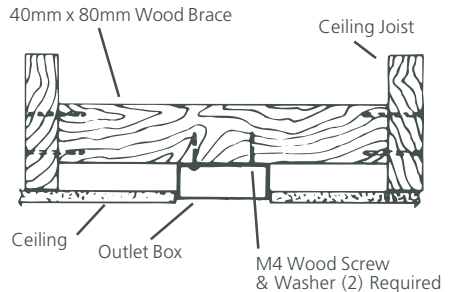

Figure 3
Secure a metallic outlet box 4" x 11/2" or 4" x 1/2" deep to 2 x 4 cross brace between two ceiling joists as shown in Figure 3. The outlet box must be recessed in the ceiling by 1/16" minimum. Secure the outlet box to the cross brace by drilling (2) pilot holes no larger than the minor diameter of the woodscrews (5/64") and use two #8 x 11/2" woodscrews and washers. Use the innermost holes for securing the box. Orient the box so the outermost holes are aligned with the 2 x 4 brace. The outermost holes will be used in Step 3.